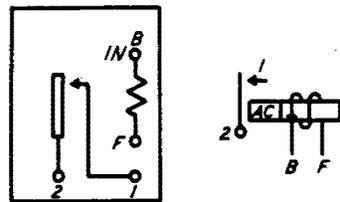

Fig. 25 - Winding and Spring Terminal Arrangement as Viewed From the Front (contact side) — 85-Type Relay
2.39 The front contact spring is indicated by 1 and the armature by 2. On those relays having two contact springs, the front contact spring is indicated by 1 and the spring that rests on the armature stud is indicated by 2. The relative location of the winding and spring terminals and typical designations are shown on Fig. 25.